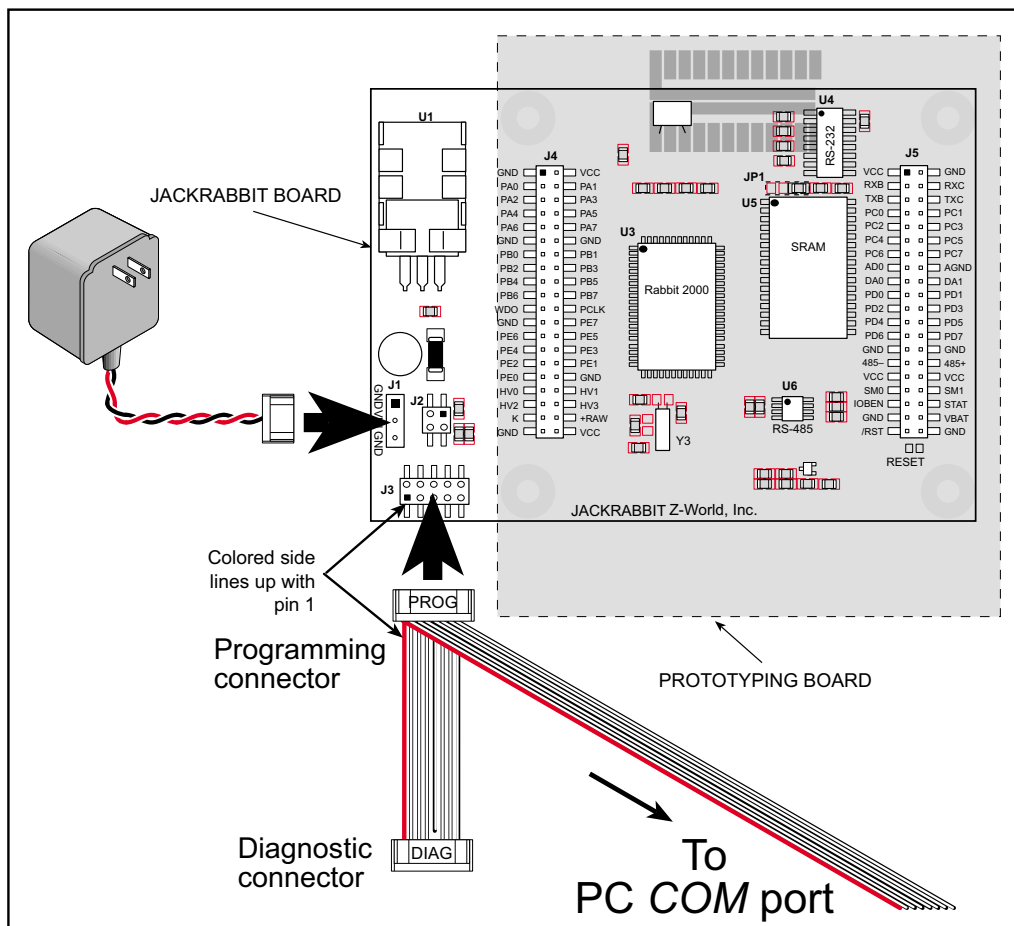

Figure 3. Power and Programming Cable Connections to Jackrabbit Board
1. Connect the 10-pin **PROG** connector of the programming cable to header J3 on the Jackrabbit board as shown in Figure 3. (If your programming cable has only one unlabeled 10-pin connector, attach that connector to header J3 on the Jackrabbit board.) Connect the other end of the programming cable to a COM port on your PC. Note that COM1 is the default COM port used by Dynamic C.
2. Hook up the connector from the wall transformer to header J1 on the Jackrabbit board as shown in Figure 3. The orientation of this connector is not important since the VIN (positive) voltage is the middle pin, and GND is available on both ends of the three-pin header J1.